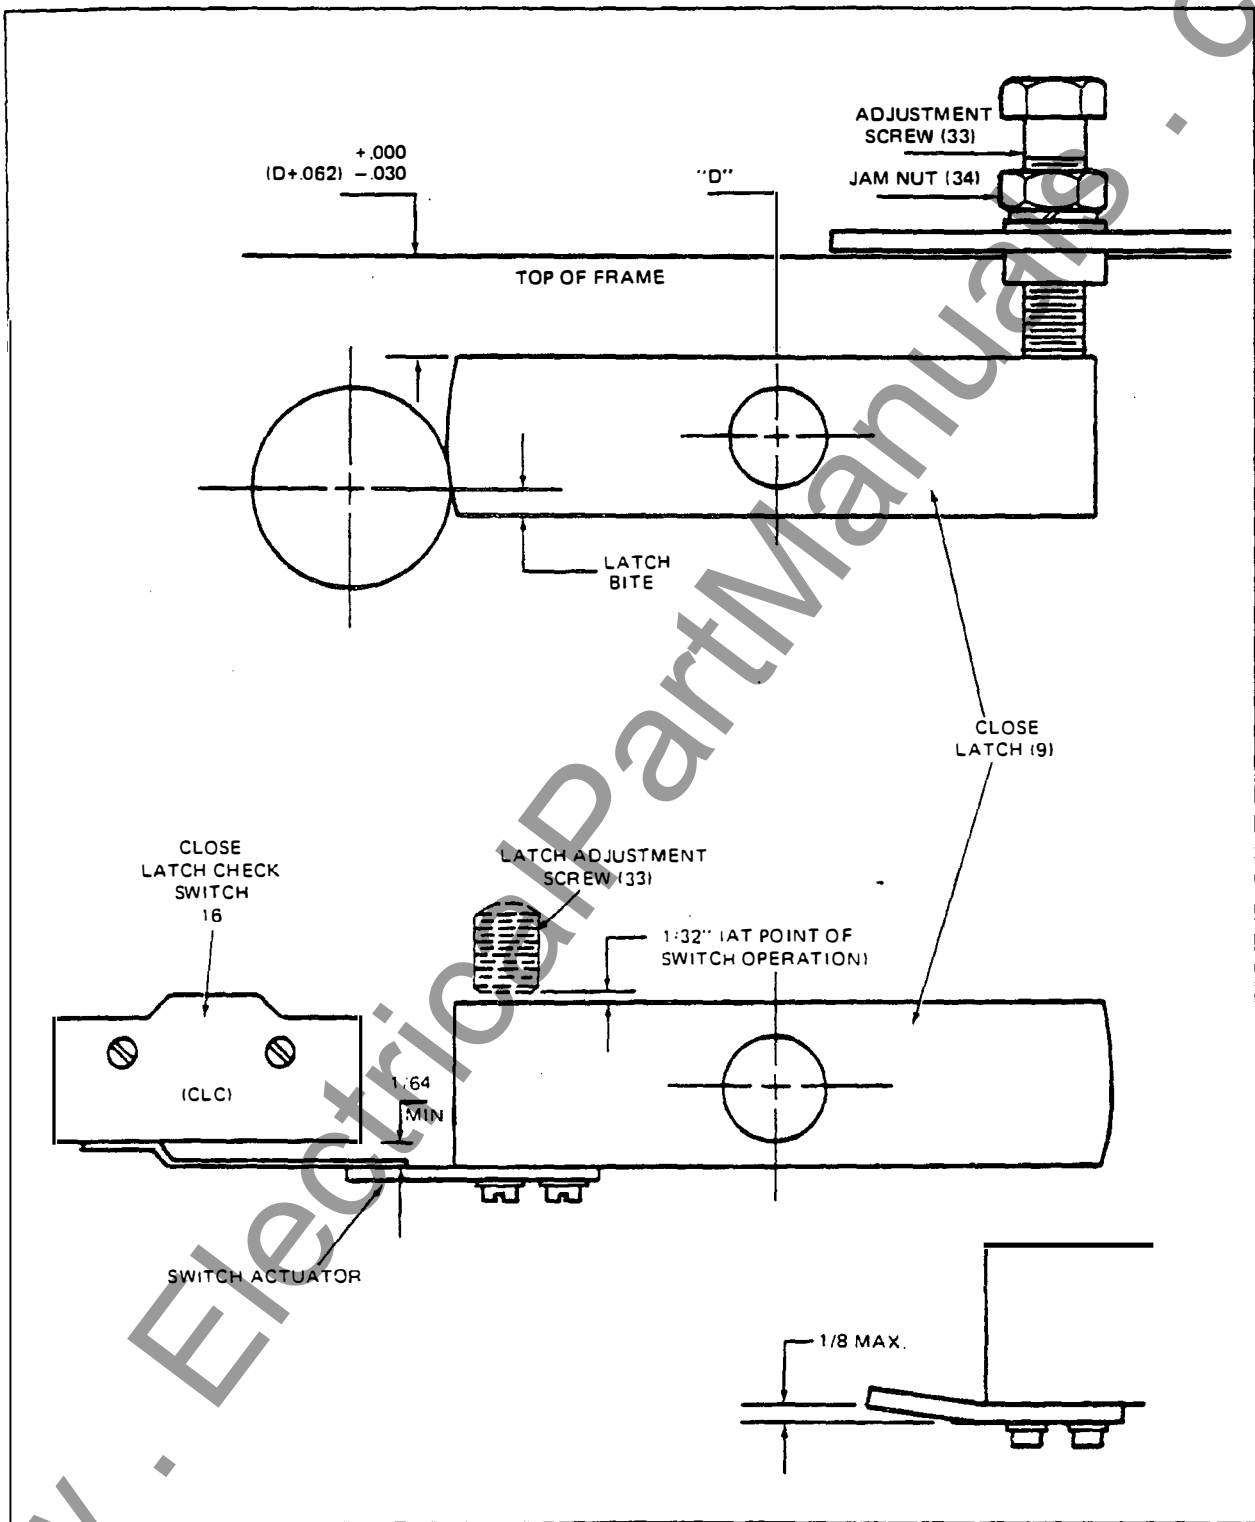
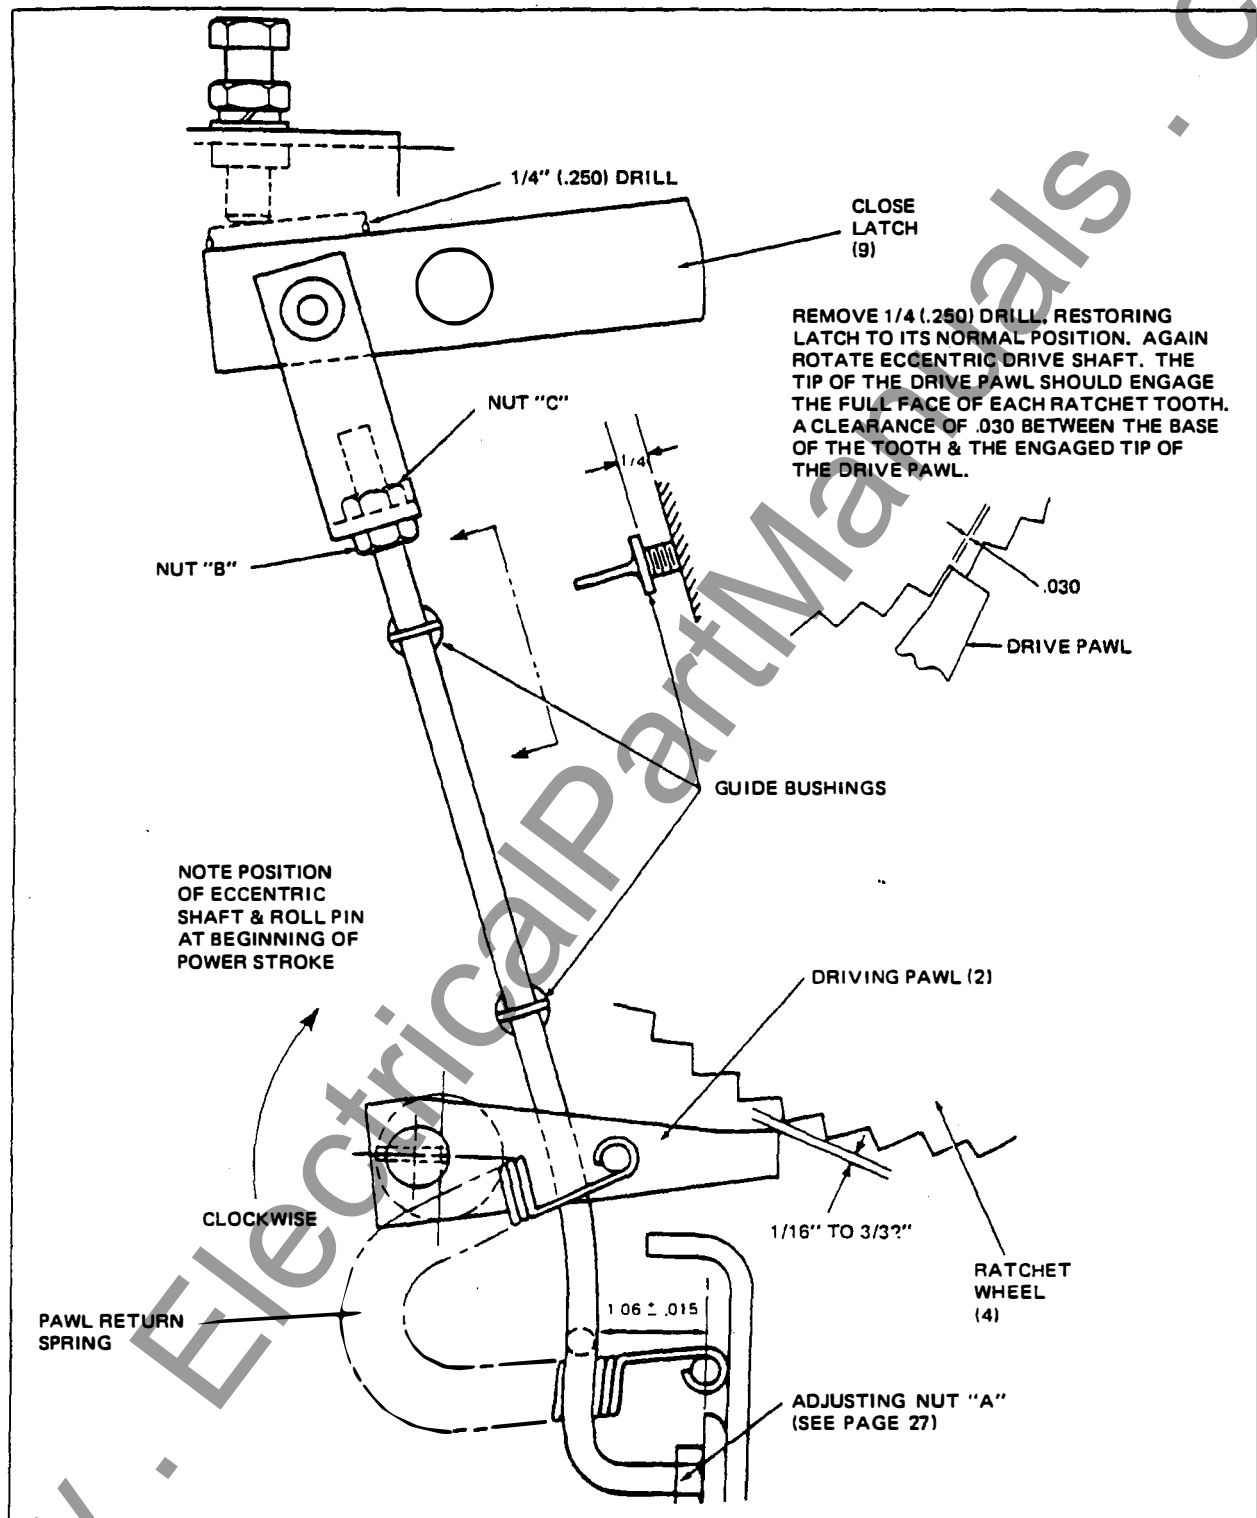

Figure 18. Close Latch Bite and Check Switch Adjustments
Figure 20. Close Latch Mechanical Interlock
**Close Latch Bite Adjustment** — free jam nut and place latch in horizontal position (Figure 18). Visual accuracy. Measure "D" directly above latch pivot. Reproduce this dimension plus 0.062" (1.6 mm) at the latch face as shown in the figure above by rotating the adjustment screw. Secure jam nut. This adjustment should produce a latch bite of 0.151 to 0.216 inches (3.8-5.5 mm).
**Close Latch Check Switch Adjustment (Figure 18)** — is to be performed only after completing the latch bite adjustment described above.
If switch actuator is bent, observe latch fully closed against adjusting screw and make certain the switch actuator has not contacted the switch body. A 1/64" (0.4 mm) clearance should exist as shown in Figure 18.
The following adjustments are to be made only after completing the close latch bite adjustment described on the previous page and after adjusting connecting link as shown on Figure 18.
**Close Latch Mechanical Interlock Adjustment (Figure 20)** — is to be undertaken only after completing the close latch bite adjustment described above (Figure 18).
Adjust actuator rod displacement from support angle to  $1.06 \pm .015$  inches ( $27.0 \pm 0.4$  mm). See detail of adjusting nut "A" (Figure 20).
The circuit breaker mechanism should be inspected at 1000 operation intervals. This inspection should check for loose hardware and any broken parts. The control wiring should be checked for loose connections and frayed or damaged insulation. The "close latch check switch", "trip latch check system" (if furnished), and "mechanical interlock" switch should be checked for mounting tightness. The satisfactory operation of each switch element should be assured with a continuity meter and manual manipulation of the switching element, and adjusted if necessary. Verify that operation of "Close Latch Mechanical Interlock" is proper (refer to page 31 and Figure 20).